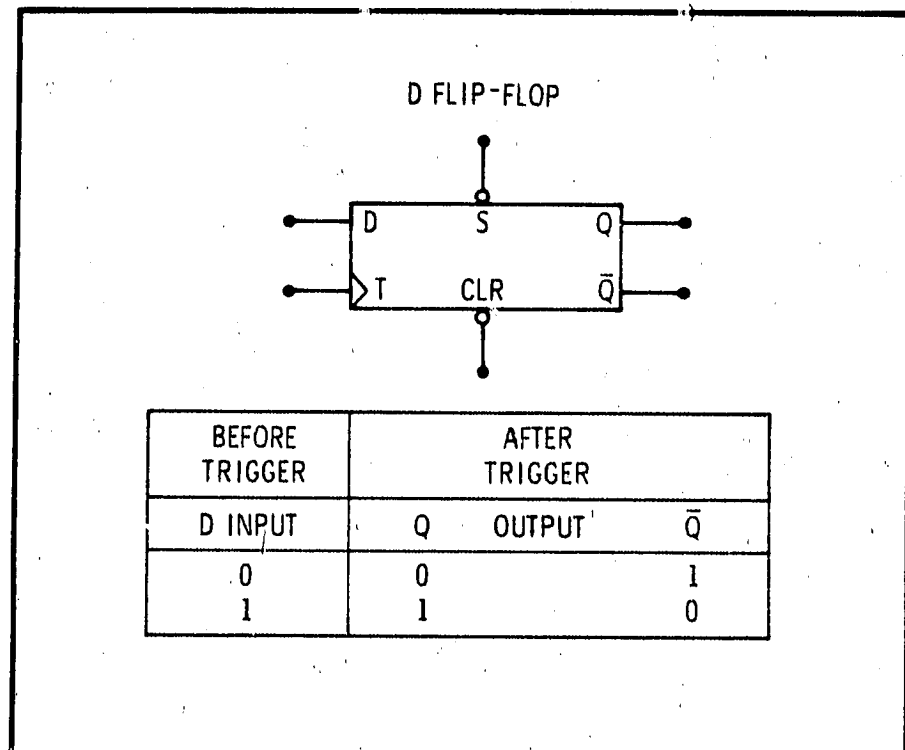

Figure 8-3. D Flip-Flop
8-25. **D Flip-Flop.** The D-type flip-flop, shown in Figure 8-3 is used as a storage latch or buffer. The information at the data input (D) is transferred to the Q output when triggered by the T input. Once the T input has passed its threshold, the D input is locked out and the Q outputs do not change until another trigger occurs at the T input.